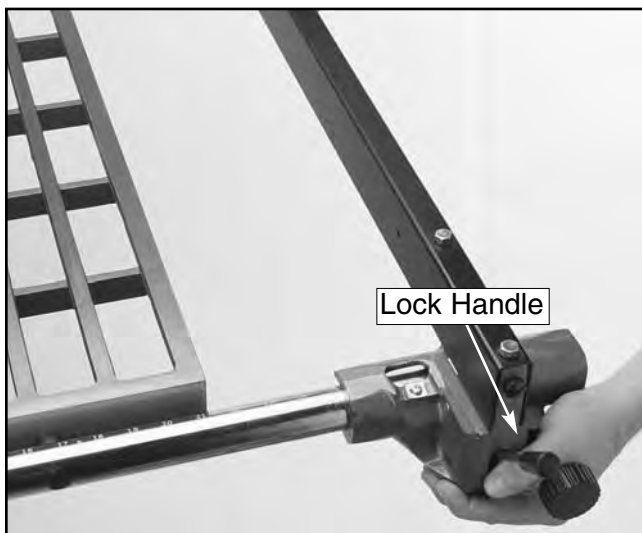

Figure 23. G1022SM fence shown.
2. Set the lock handle in the up position and slide the fence over the front and rear rails as shown in **Figure 23**.